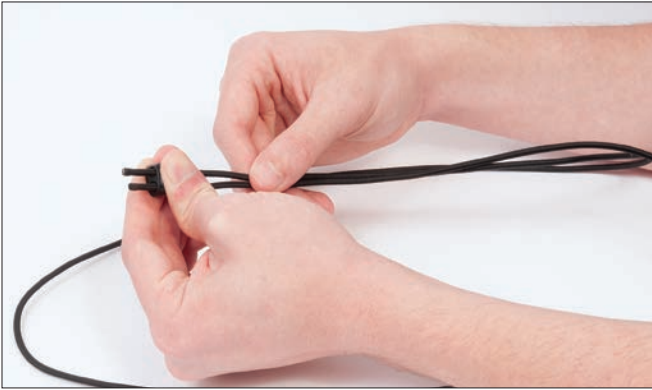

Figure 17
1. Squeeze the cord lock and slide the black elastic cord through both holes (Figure 17).